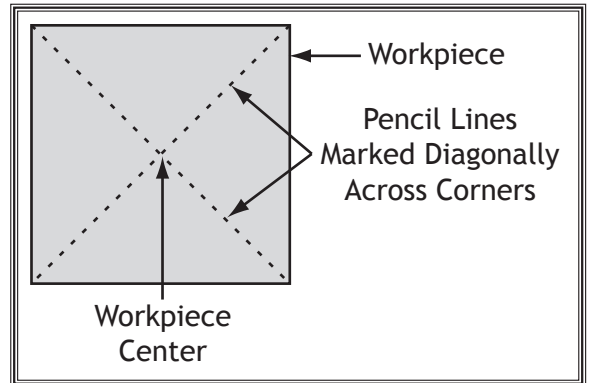

Figure 25. Workpiece marked diagonally from corner to corner to determine center.
1. Find center point of both ends of your workpiece by drawing diagonal lines from corner to corner across end of workpiece, as shown in **Figure 25**.